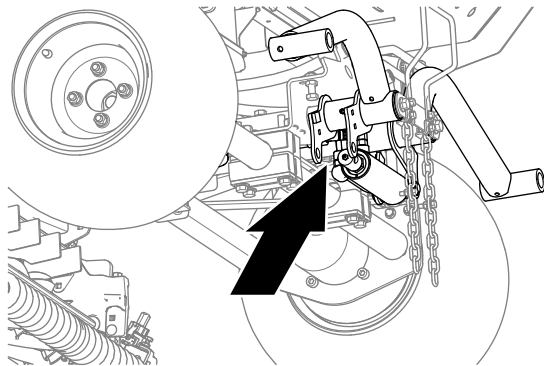

Figure 11
1. Align a drain pan below the hydraulic fittings of the lift cylinder (Figure 11).